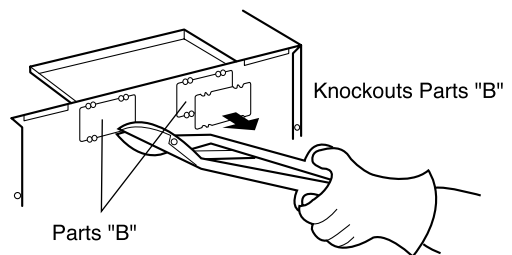

Figure 14
3. Use side cutters or tin snips to cut and remove knockouts "B" from Back plate. Discard knockouts. Be careful not to distort the plate. See Figure 14.